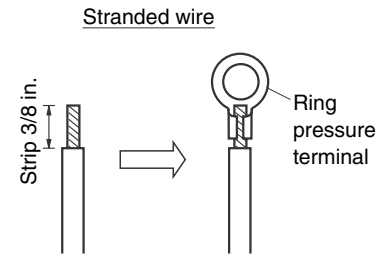

Fig. 1-8
- 1) Cut the wire end with a wire cutter or wire-cutting pliers, then strip the insulation to expose the stranded wiring about 3/8 in. (Fig. 1-8)
- 3) Using a ring connector fastener or pliers, securely clamp each stripped wire end with a ring pressure terminal. (Fig. 1-8)